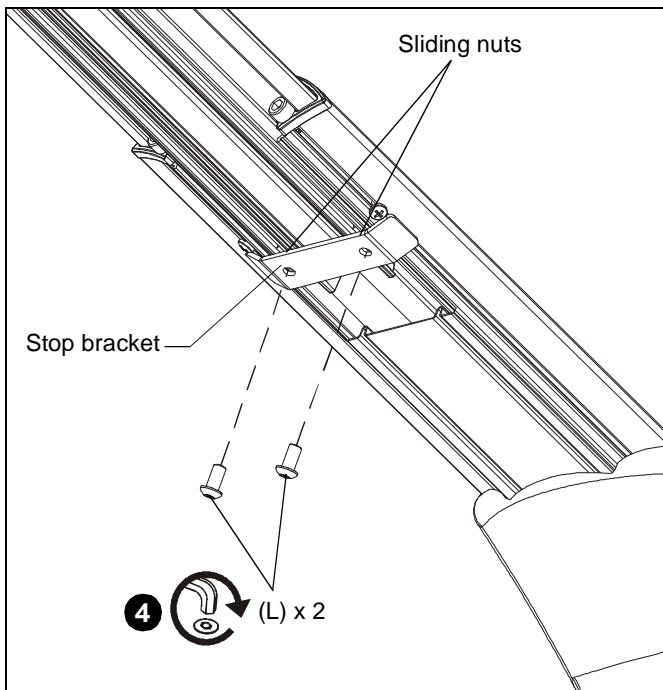

Figure 28
4. Install two 1/4-20 x 1/2" button head security screws (L) through holes in stop bracket and into holes in sliding nuts. (See Figure 28)